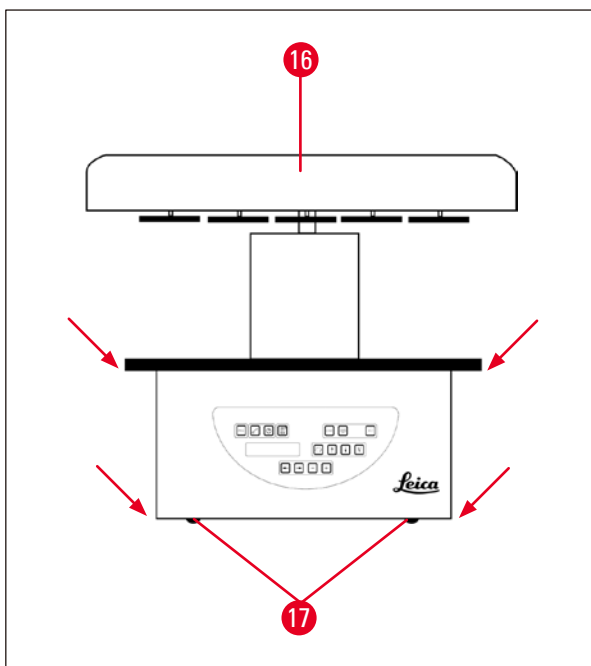

Fig. 12
- To lift up the instrument take it by the reagent container platform or by the lower end of the housing (→ Fig. 12) and lift it from the base plate (→ Fig. 11-10).